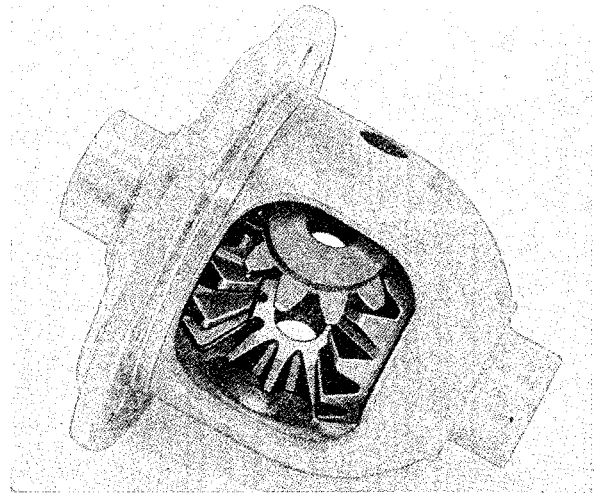

Fig. 4-148. Differential gear installation
1. Place the differential side gears and the thrust washers in the differential carrier. Then "roll" in the differential pinions both simultaneously with the dished thrust washers, see Fig. 4-148. Drive in the shaft.